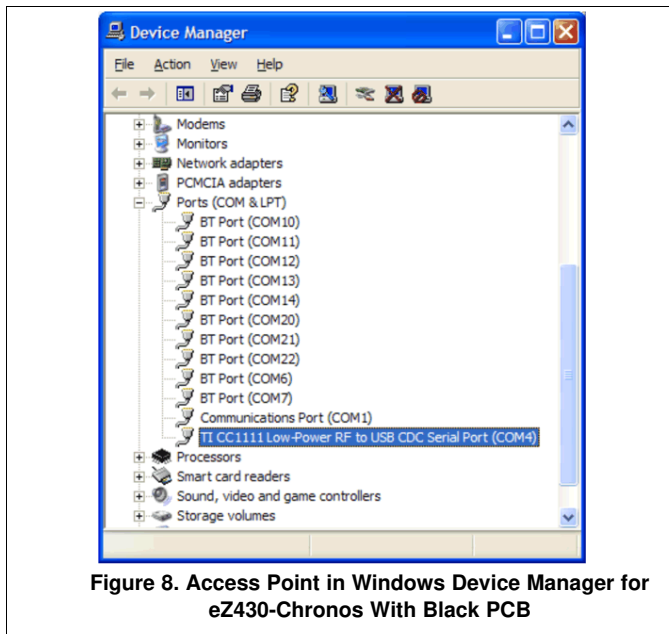

Figure 8. Access Point in Windows Device Manager for eZ430-Chronos With Black PCB
8. The Windows Device Manager lists the device *TI CC1111 Low-Power RF to USB CDC Serial Port (COMx)* or *eZ430-ChronosAP (COMx)* in *Ports (COM & LPT)* (see Figure 8).